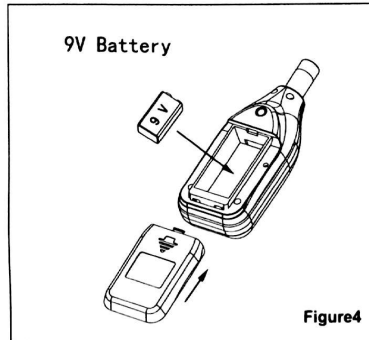

Figure 4
3. When Low battery mark "⊞" appears, please replaced with a new 9V battery. (Figure 4)